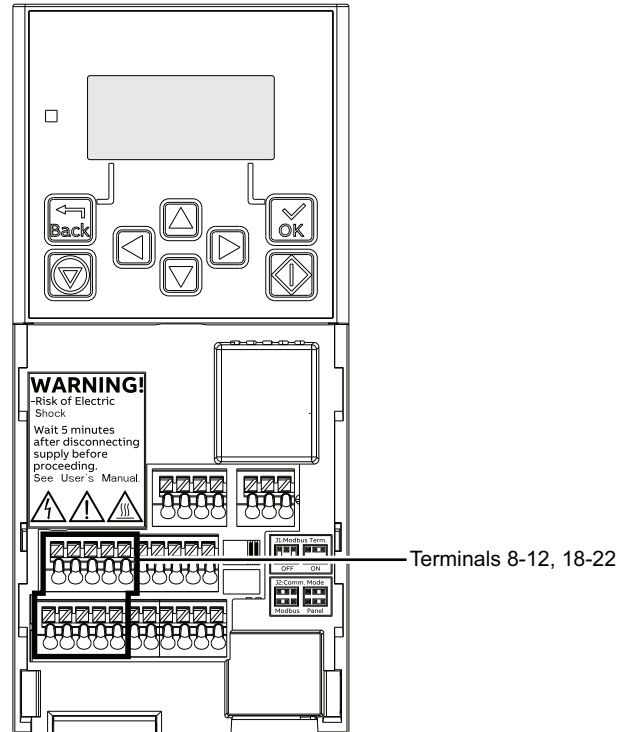

Fig. 37 — Digital Input Terminal Block Location on ACH180 VFD
3. Disconnect the DI1 input at Terminal 8 (see Fig. 37 for location of DI1).